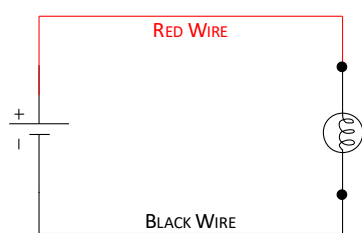

Figure 2a: Bulb circuit *without* meters
- Sketch the circuit diagram (**Figure 2a**) in your report, again noting that no meters are included. The symbols that will be used in circuit diagrams are found at the end of this section (**Table 1**).